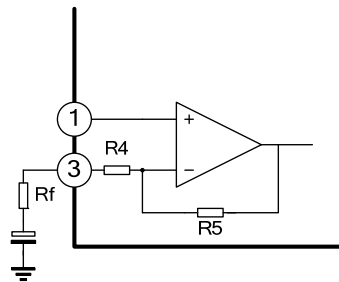

Figure 2
2. Adjustment of the voltage gain (Figure 2)
The voltage gain is fixed at $G_V=40\text{dB}$ by the resistors (R4 and R5) in IC. Its reduction is possible through adding R_F as shown in Figure 2. In this case, the voltage gain is obtained by the following equation: $G_V=20\log(R_5+R_4+R_F)/(R_4+R_F)$. It is recommended to use this IC with the voltage gain of $G_V=28\text{dB}$ or over.